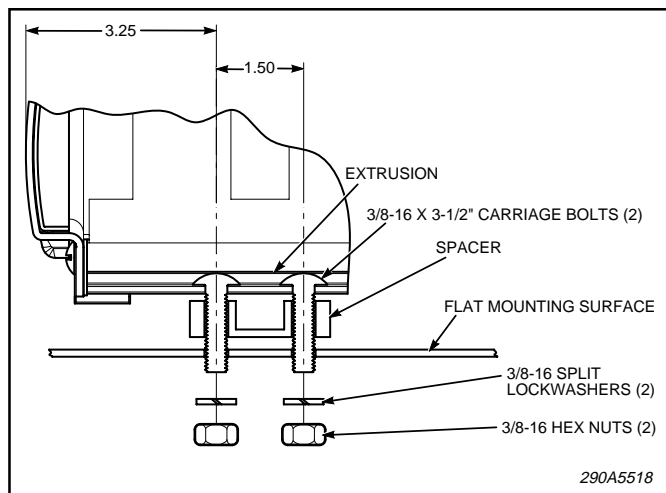

Figure 1.
2. See figure 1. Scribe a drill position mark about 3-1/4" from the end of the light assembly.
3. See figure 1. Scribe another drill position mark 1-1/2" in from the previously scribed drill position mark.
4. Drill two (2) 13/32" holes at the previously scribed drill position marks.
5. Secure the light assembly to the flat mounting surface using the spacer, 3/8-16 nuts and 3/8" split lockwashers as shown in figure 1.